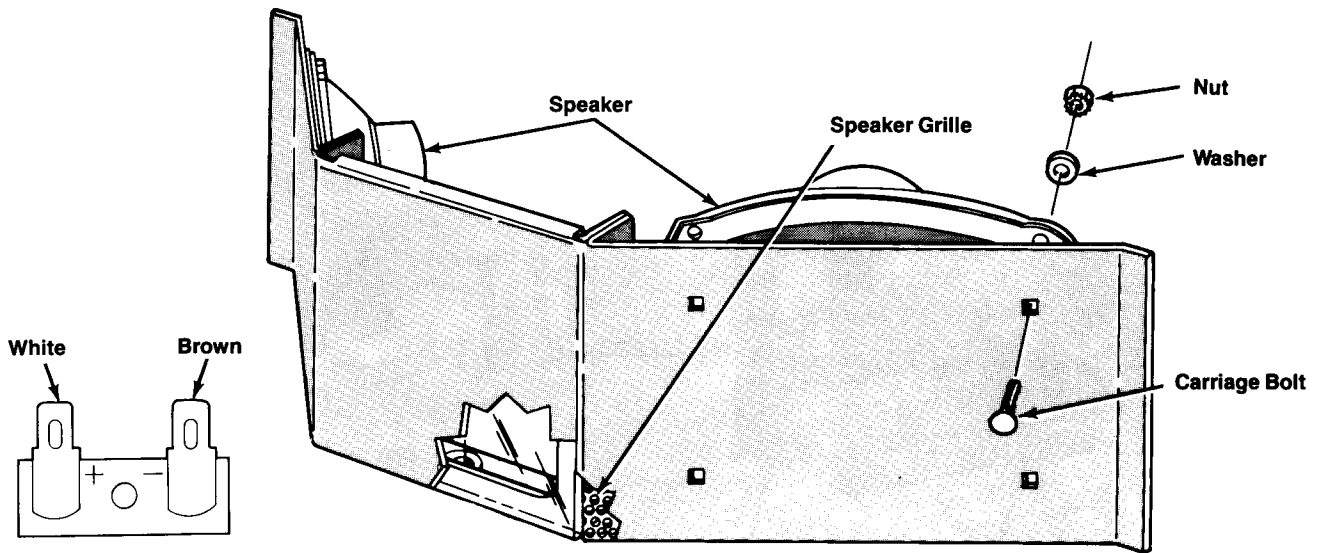

Figure 4-4 Speaker Removal
1. With the speaker grille assembly out of the game cabinet, remove the 4 nut/washer assemblies, washers, and carriage bolts securing each speaker to the speaker grille assembly (see Figure 4-4).
5. Reconnect the speaker wires as shown in Figure 4-4.